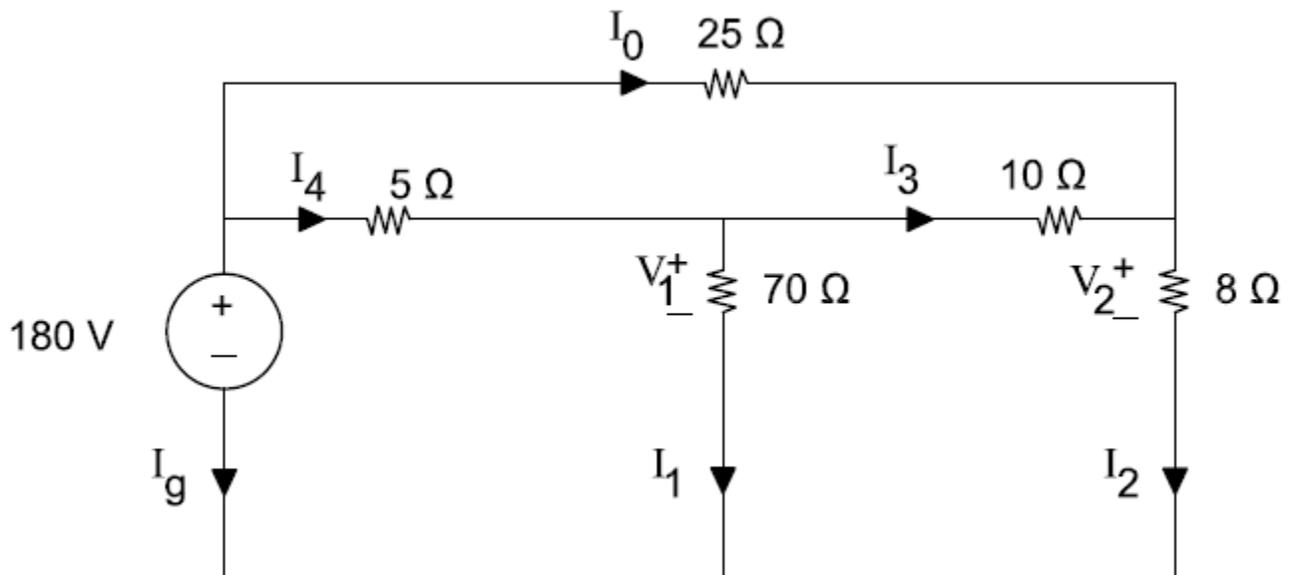

Fig.4
4. The current i_o in the circuit Fig .4 is 4A find i_1, i_2, i_3, i_4 and i_g, V_1 and V_2 .